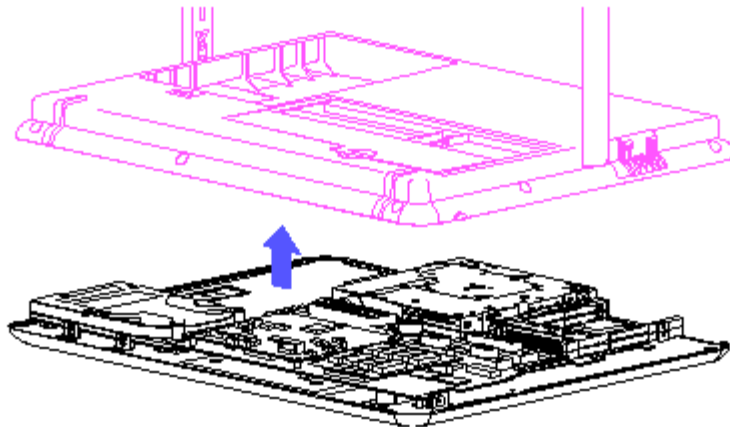

Figure 3-12. Removing the Back Cover
4. Lift the back cover off the computer (Figure 3-12).